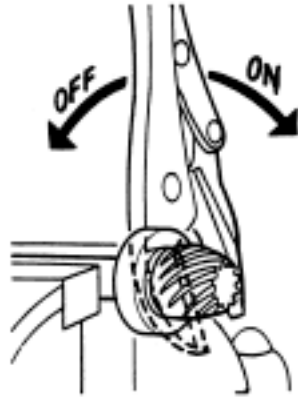

FIG 54
2. To remove pinion, grip shaft just behind bearing in jaws of vice (Fig. 54) and unscrew pinion counter (anti) clockwise (normal thread) with vice grips. If tight, heat to break loctite seal.